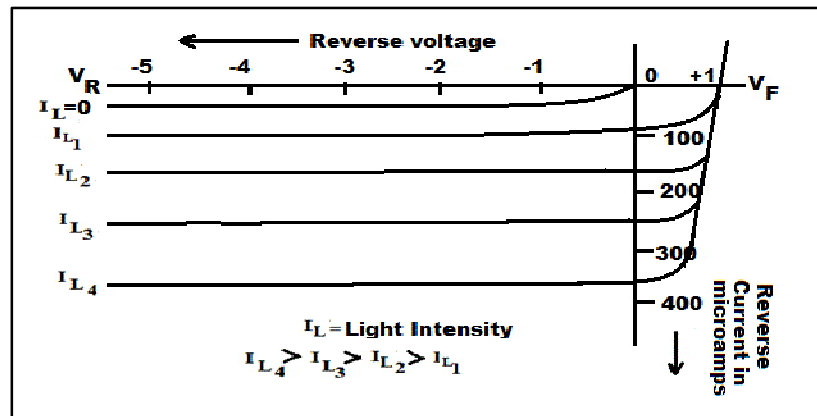

Fig.2.14: V-I characteristics of photodiode
- The V-I characteristics of photodiode is shown in fig.2.14.